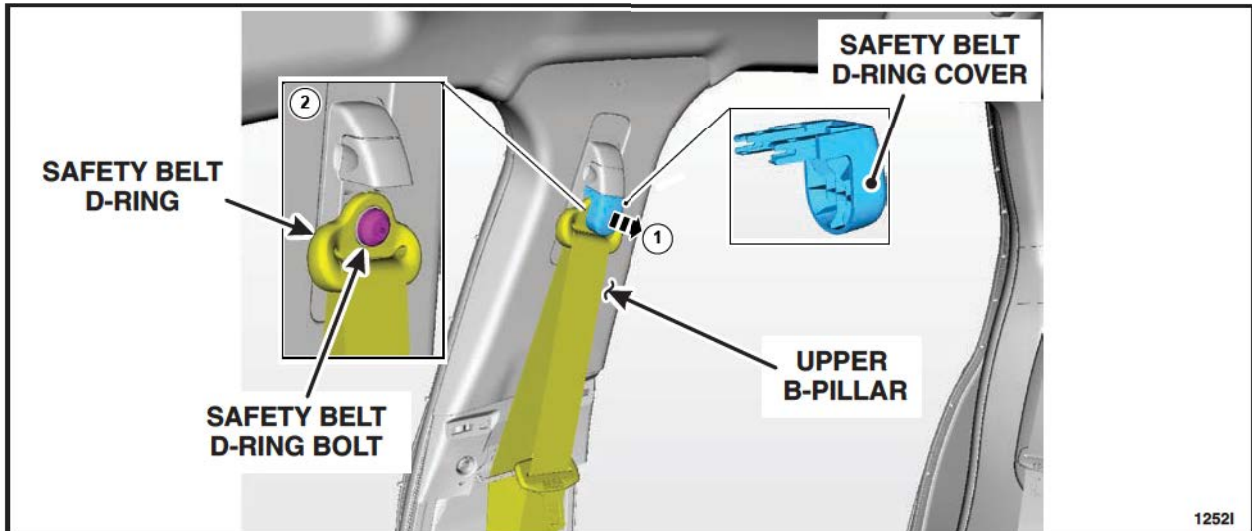

FIGURE 7
10. Remove the safety belt D-ring cover and bolt from the RH and LH upper B-pillar. See Figure 7.